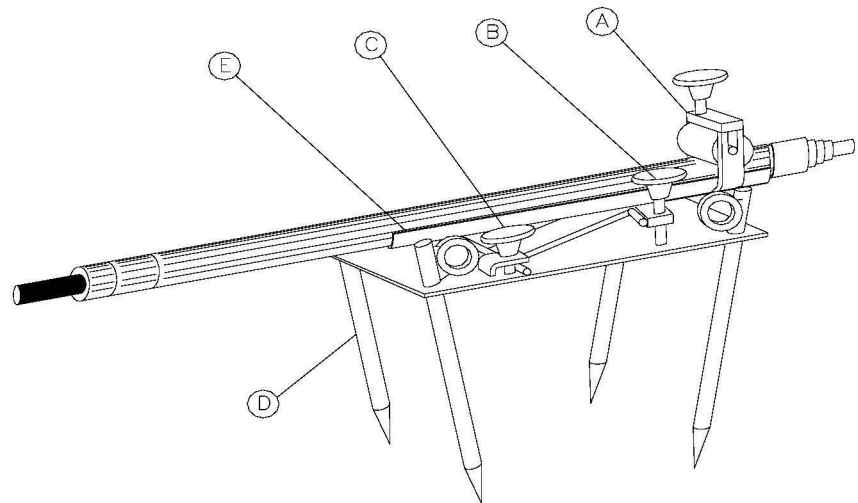

Figure B12a – Example of conventional cradle & fixing anchors
1. Survey the floor of the launch-pit with the plant-locating device prior to securing the launch-cradle with the stabilizing pins (Figure B12a). If traces of plant are found, or if the location is too congested for the use of the launch cradle, a further risk assessment should be undertaken to either: